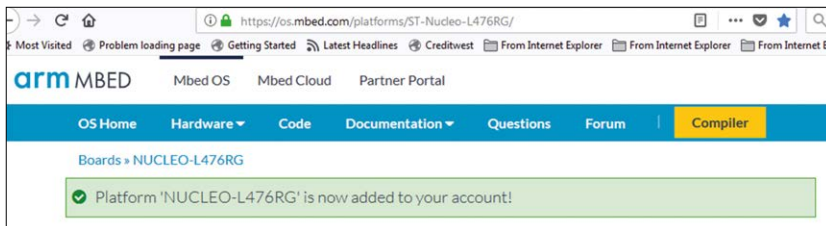

Figure 3.8: Starting the Mbed compiler.
- Click **Compiler** to start the compiler (see Figure 3.8).